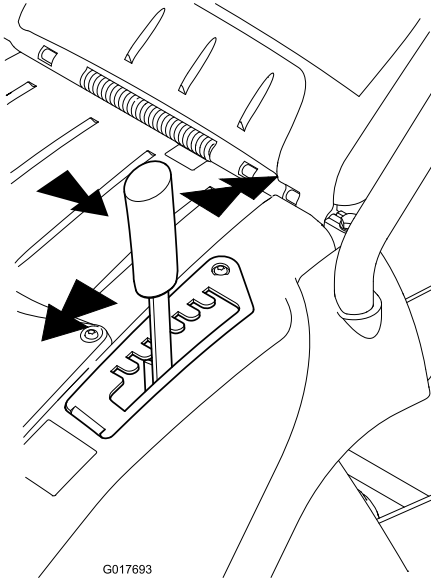

Figure 11
1. Grip the lever and pull sideways to disengage it from the locking notch (Figure 11).
2. Push forwards to lower or pull backwards to raise the height of cut (Figure 11).
3. Release the lever at the required position and ensure it locks firmly into one of the seven setting notches (Figure 11).